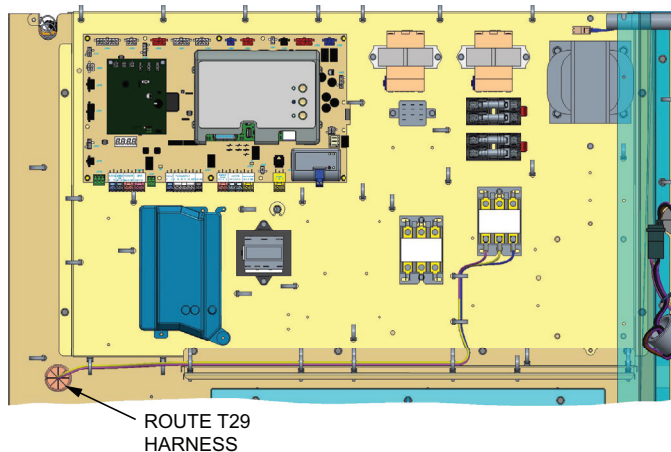

FIGURE 17
- i. Locate the grommet on the control wall and feed harness through it. See FIGURE 17 for S*H 036-060.